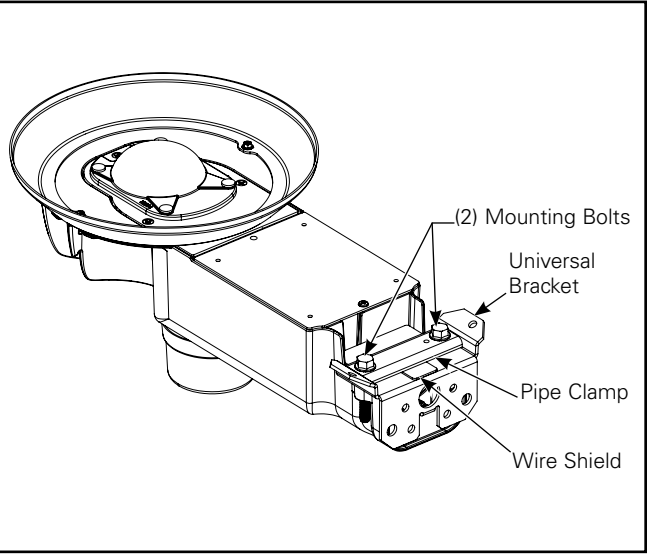

Figure 1.
1. Use a 1/2" socket wrench to remove wall/pole mount bracket from fixture and set aside two fixture mounting bolts and wire shield. Discard pipe clamp bracket. (Figure 1.)
1. Use a 1/2" socket wrench to remove pipe clamp bracket from fixture and set aside two fixture mounting bolts. Discard wall/pole mount bracket and wire shield. (Figure 1.)